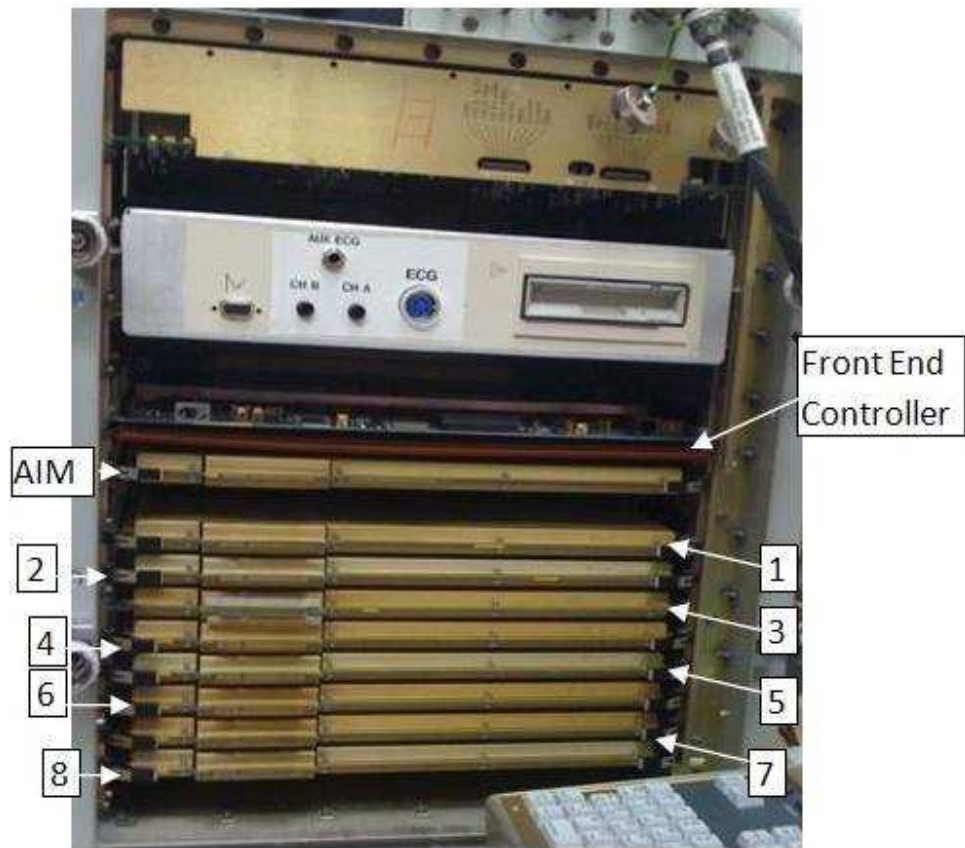

Figure 4. - Board Locations Inside HRF Ultrasound.
1.11 Using Figure 4 as a guide for board identification and location,
Using Fine Point Sharpie, label each channel board inside HRF Ultrasound with the location designation given in Figure 4 (for example, channel board at location 1 will be labeled as '1', channel board at location 2 will be labeled as '2', etc) for all channel boards in unit (label can be on any clear space of plastic on channel board).
Remove top two boards identified as Front End Controller and AIM in Figure 4 by pulling both levers simultaneously on each and sliding one board then the other out of HRF Ultrasound.
HRF Ultrasound Install Control Board into location identified as Front End Controller in Figure 4 by sliding into HRF Ultrasound (ensure levers are unlocked for installation). Once Control Board is fully seated turn levers 90 degrees to lock.
HRF Ultrasound Install Analog Board into location identified as AIM in Figure 4 by sliding into HRF Ultrasound (ensure levers are unlocked for installation). Once Analog Board is fully seated turn levers 90 degrees to lock.
- 1.13 Remove channel board (starting with channel board identified as 1 in Figure 4) by pulling both levers of each simultaneously and sliding channel board out of HRF Ultrasound.